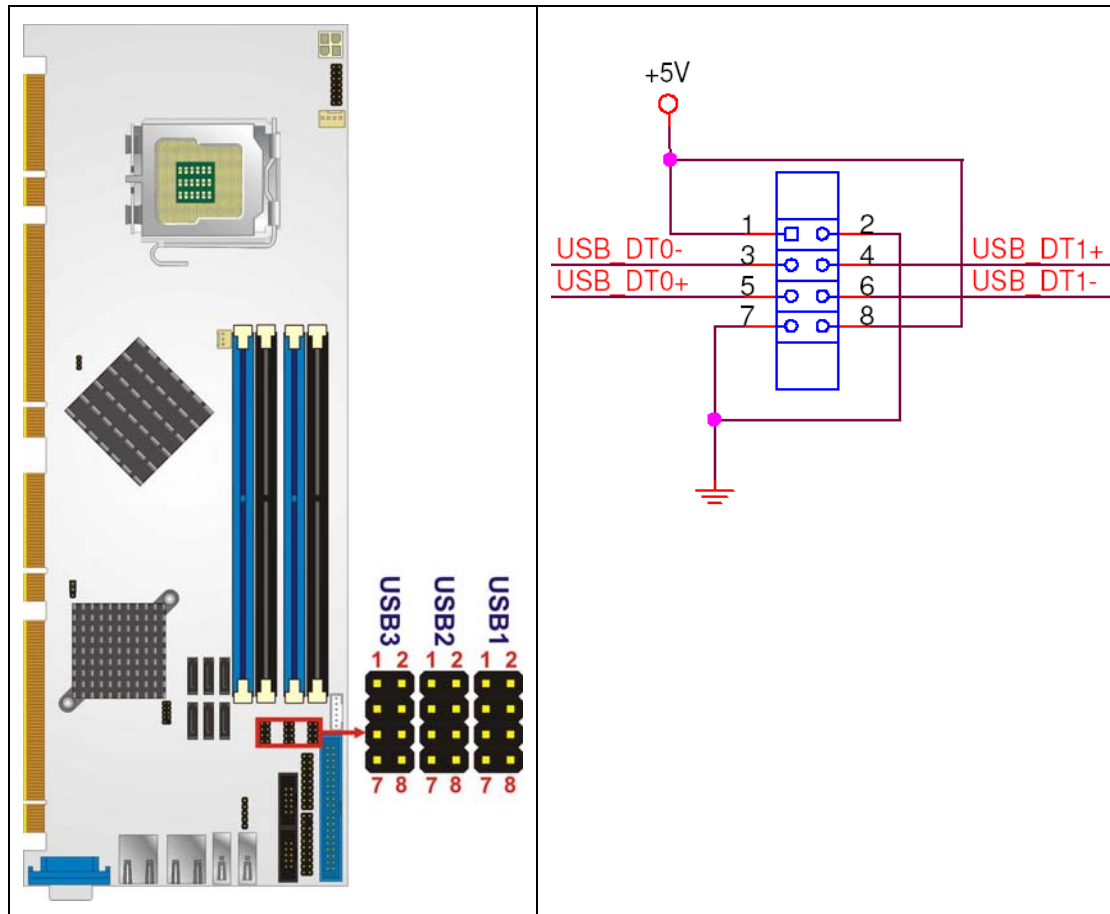

Figure 4-14: USB Connector Pinout Locations
- CN Location:** See Figure 4-14